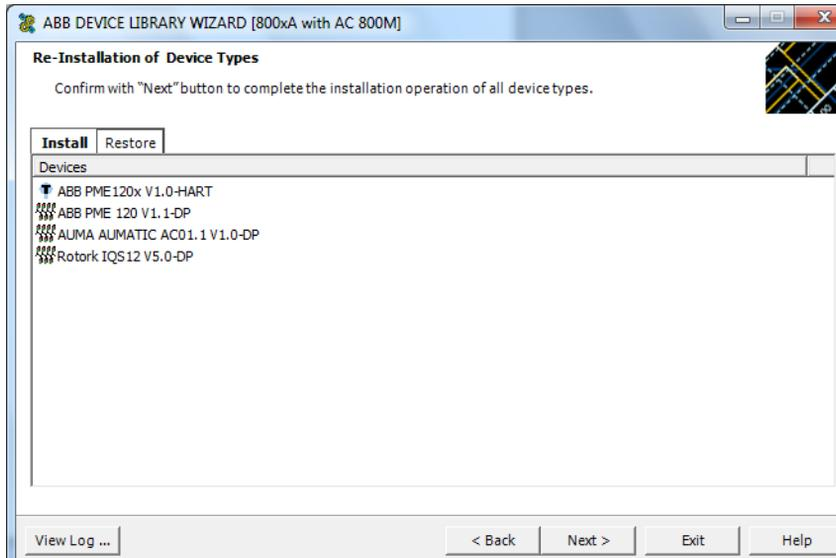

Figure 48. Install Device Types
10. After successful extraction, the device types need to be reinstalled on the system node. Click **Next** (Figure 48).